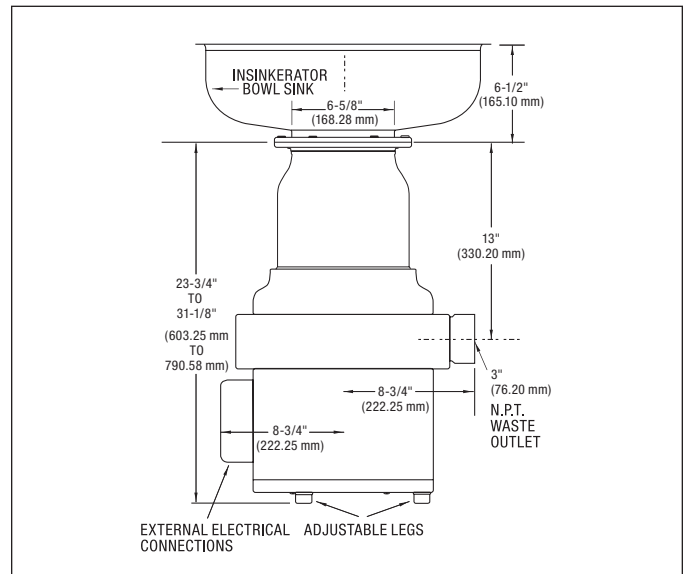

Figure 5.
- For safe operation, the minimum required distance from the table top or trough to the mounting flange is 6 inches for standard body disposers (as specified by UL). See Figure 5.